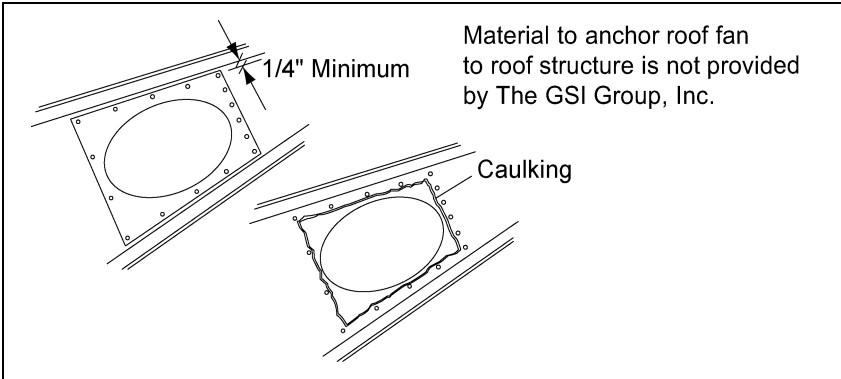

Figure 5A The 18" Template Location on the Roof Sheet (Left), and the Caulking Location on the Roof Sheet (Right).
1. Using the loose flange from the fan assembly as a template, position the desired roof fan location, allowing for 1" minimum between the roof sheet rib and the flange (See Figure 5A). Mark the sixteen (16), 3/8" mounting holes, and elliptical fan mounting hole.
2. Drill the sixteen (16), 3/8" holes and cut out the elliptical hole. Use the caulk provided, which is specified as a seal for metal sheets in an outdoor application, and apply along the inside edge of the drilled holes on the bin roof sheet (See Figure 5A).